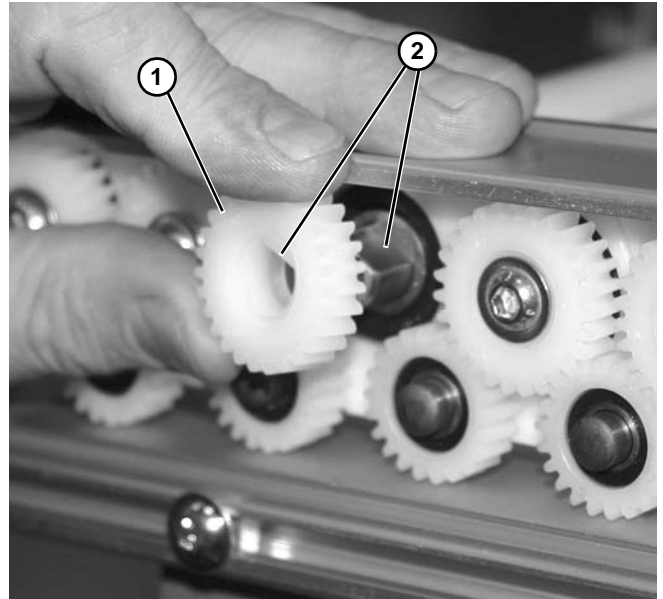

Figure 167
8. Remove the gear (Figure 167, item 1) from the roller shaft. Make note of the notches (Figure 167, item 2) in the gear and roller shaft.